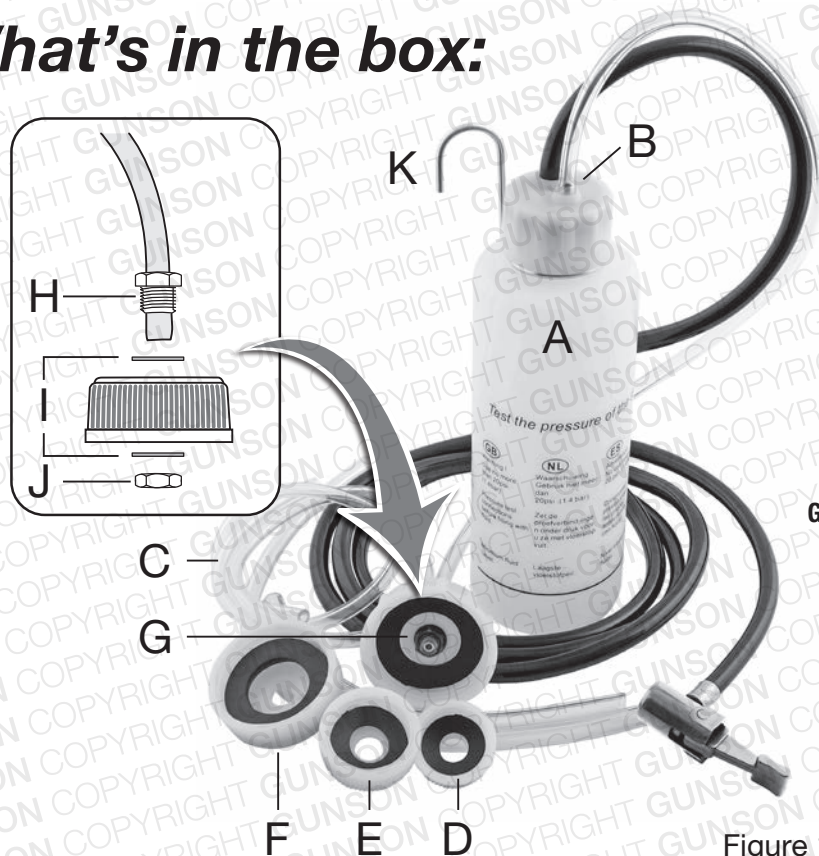

Figure 1
1. Remove the vehicle's reservoir cap, select the appropriate screw cap and connect it to the device as shown in the diagram (**Figure 1**). Then connect to the reservoir.
- Choose the correct supplied reservoir cap adaptor **D**, **E F**, or **G** (refer to **Figure 1**); the kit is supplied with a selection of reservoir caps which will fit most vehicles with screw-cap type fluid reservoirs. If necessary, the **77042** Multi-purpose cap can be used (not included in the kit — see page 7).